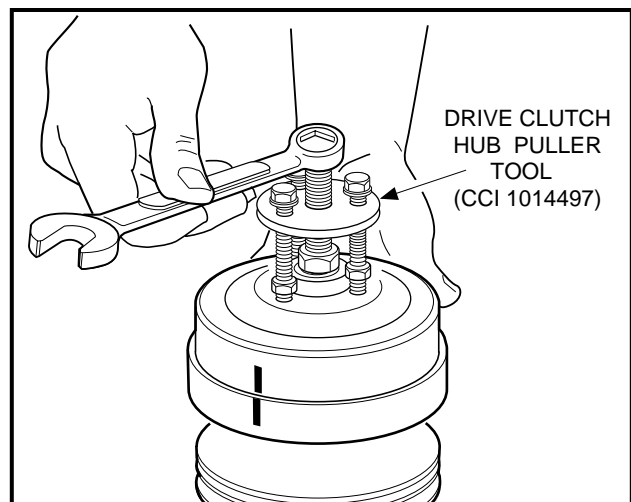

Figure 17-7 Remove Clutch Cover
- 2.2. Thread the center bolt of the Drive Clutch Hub Puller (CCI 1014497) into clutch until the stop nut touches the clutch, then back the bolt out one-half turn (**Figure 17-7, Page 17-7**).
- 2.3. Thread the three small bolts of the puller into corresponding holes in the clutch. Tighten bolts evenly, making sure the face of the puller plate is parallel to the face of the clutch (**Figure 17-7, Page 17-7**).